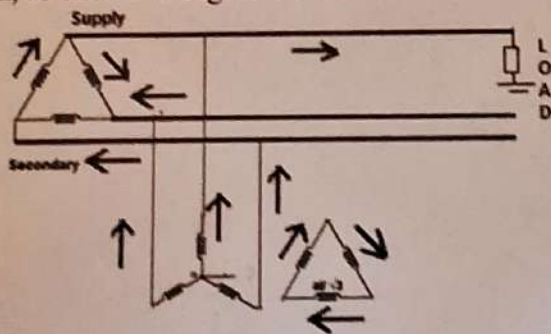

Figure 3 - Y-D Grounding transformer
7. **As Grounding Transformer:** In Power System Mostly grounded Y- Δ transformer is used for no other purpose than to provide a good ground source in ungrounded Delta system. Take, for example, a distribution system supplied by Δ connected (i.e., ungrounded) power source. If it is required to connect phase-to-ground loads to this system a grounding bank is connected to the system, as shown in Figure 3 below:
8. This system a grounding bank is connected to the system, as shown in Figure 3. Note that the connected winding is not connected to any external circuit in Figure 3.